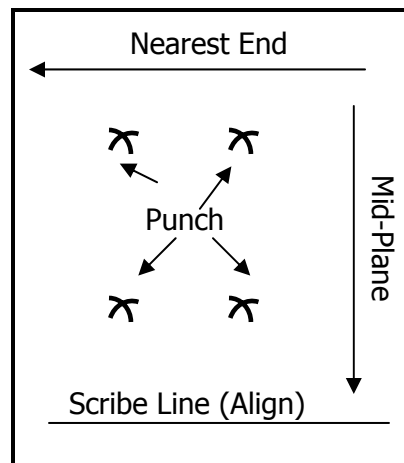
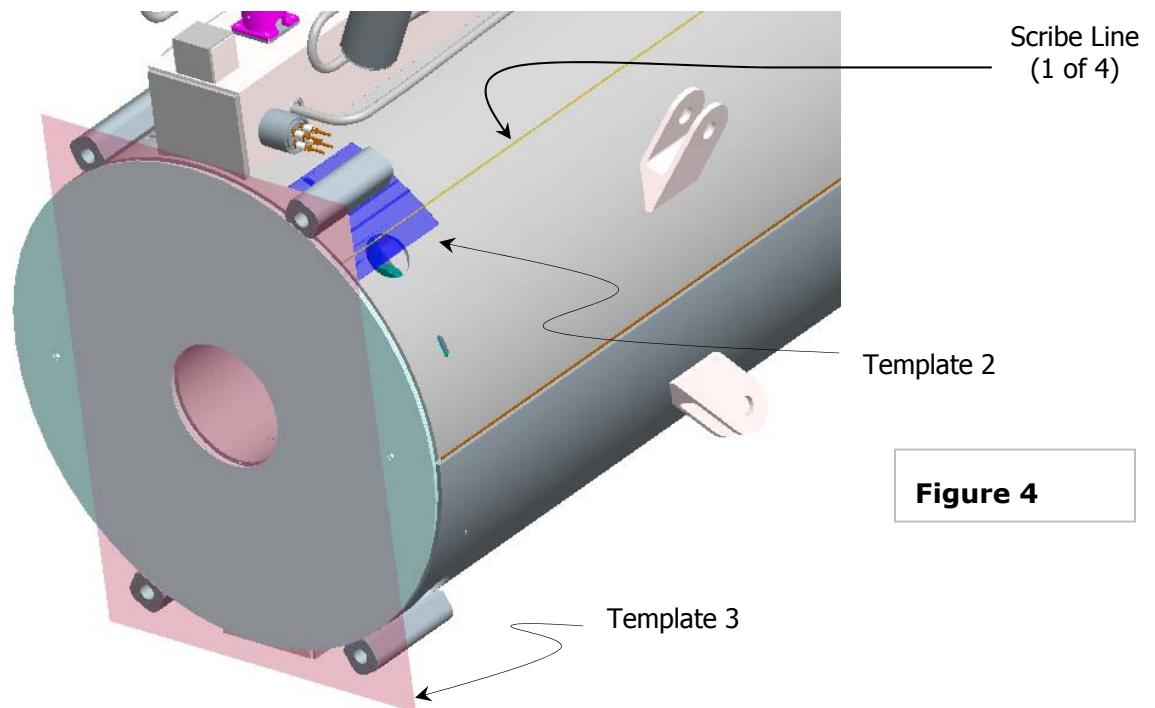

Figure 3
Figure 4
4.2.2 Place the indicated line on template #2 along one of the scribe lines made in step 4.1.3. See Figure 3 & Figure 4. Use the arrows on the template to ensure proper orientation. The edge of the template facing the nearest end should be coincident with the outer face of the end-volume end plate. The orientation with the end-volume end plate is not critical as the mount will be aligned to be flush with its face.
- 4.2.5 Align the mounts to the **Xs** as indicated in Figure 4. The front face of each mount shall be flush with the outer face of the end-volume end plate. Refer to drawing 22010520.
- 4.2.7 See Figure 4. Locate template 3 to the face of the mounts and verify proper location prior to completion of welding to follow.